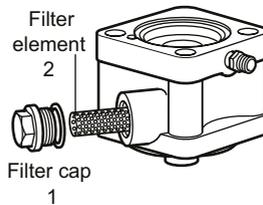

Figure 6 : Filter element
For continuous duty applications where a constant steam supply is essential then a parallel stand-by PRV station is recommended to allow for planned maintenance. Alternatively a by-pass line can be used (see fig 6). It is important that the by-pass should have a similar capacity to the pressure reducing valve which is achieved by choosing an appropriately sized valve or by using a reduced orifice in the line.
7.3. Procedure to renew the pilot filter element: (Refer to Figure 6)